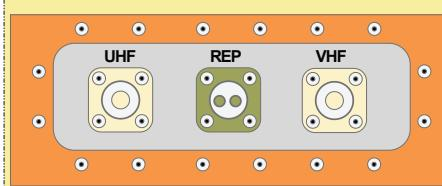

Figure 2: Equipment Bulkhead Mount Back View
- Before erecting the antenna mast, attach the other end of the **UHF** coax to the appropriate connector on the bulkhead mount on the back of the fiberglass box. (See Figure 2)